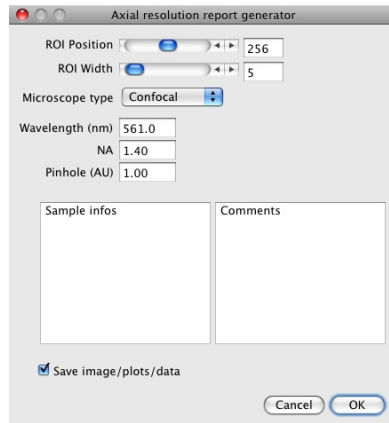

Figure 5.2: Generate axial resolution report: the interface.
5. The plugin's interface should appear (see fig. 5.2);